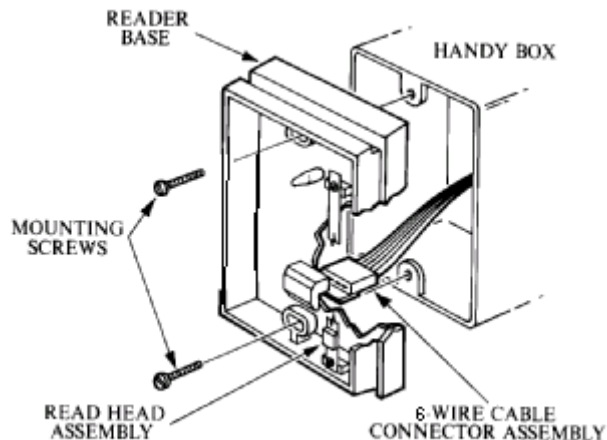

Figure 1
- 8) Position new read head assembly on reader base and secure with the two mounting screws. Do not over tighten or this may result in stripping the threads on the reader base. See FIG. 1.